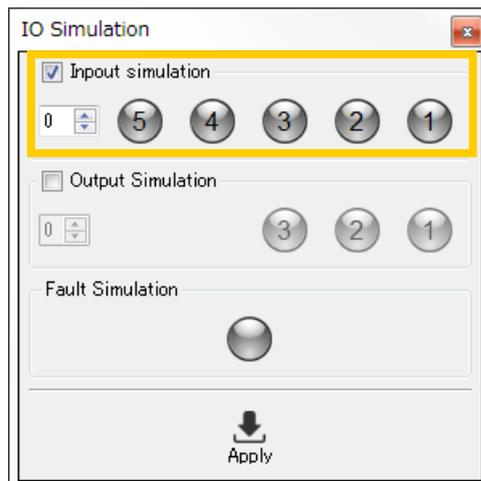

Figure 4.6-2 Display when the check box of input simulation is active
1. This shows when a check mark is placed in the input simulation checkbox or the output simulation for which to perform the test. When check mark is placed, as illustrated in figure 4.6-2, the numerical input checkbox and the buttons will be active.